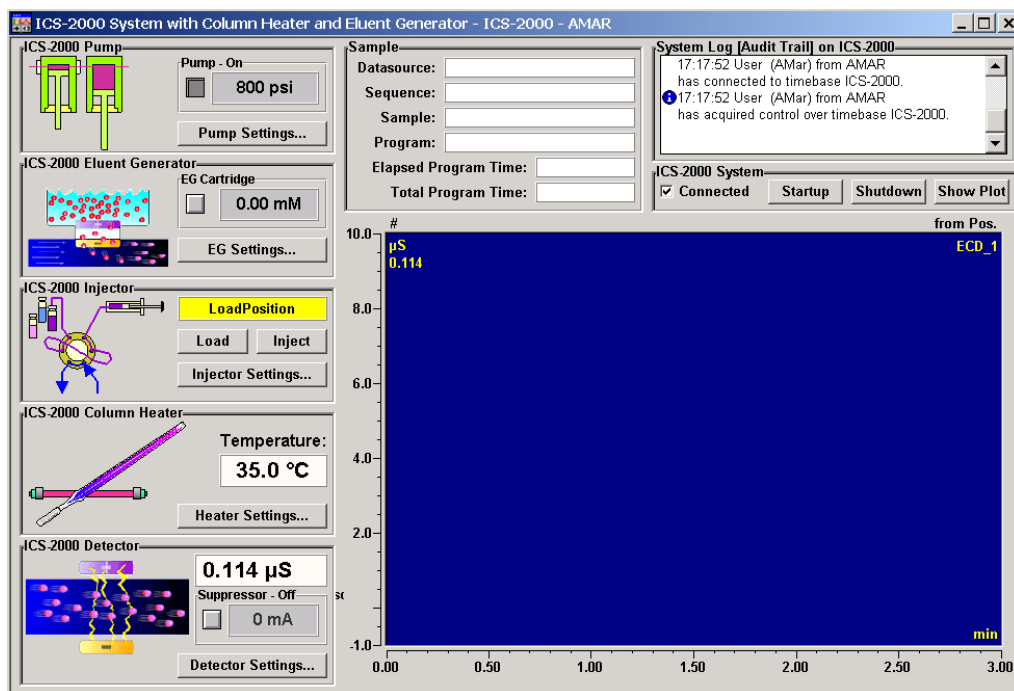

Figure B-103. ICS-2000 System Control Panel Example
19. Double-click the .pan file to open the Control panel for your system (see the example in Figure B-103).